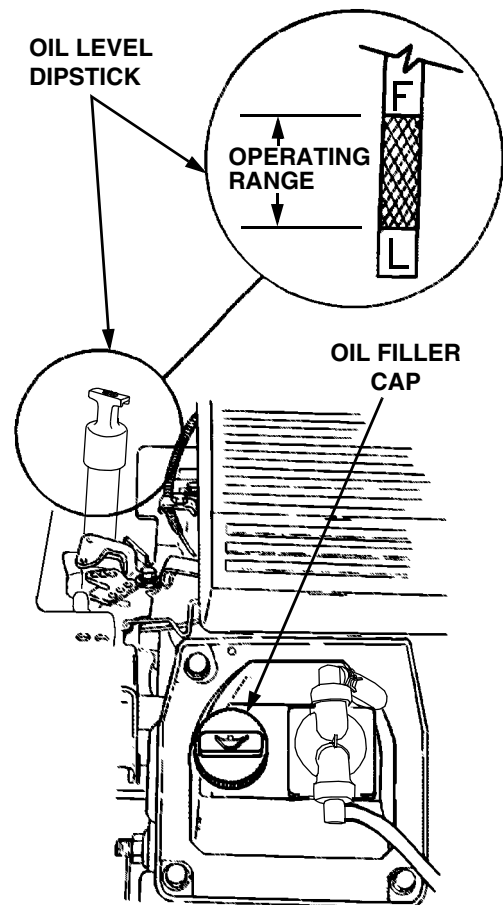

Figure 20
Regularly checking and maintaining the engine oil level in the crankcase cannot be overemphasized. Close monitoring of the oil level during the first 10 hours of operation is especially important. Referring to Figure 20, check the oil level **BEFORE EACH USE** as follows:
3. Remove the oil filler cap from the left valve cover and SLOWLY pour in oil. Fill the crankcase until the oil level reaches the "FULL" mark on the dipstick (Refer to Figure 20).
3. Remove the oil filler cap from the left valve cover and SLOWLY pour in oil. The oil capacity is approximately 4 pints. Fill the crankcase until the oil level reaches the “FULL” mark on the dipstick (Refer to Figure 20).